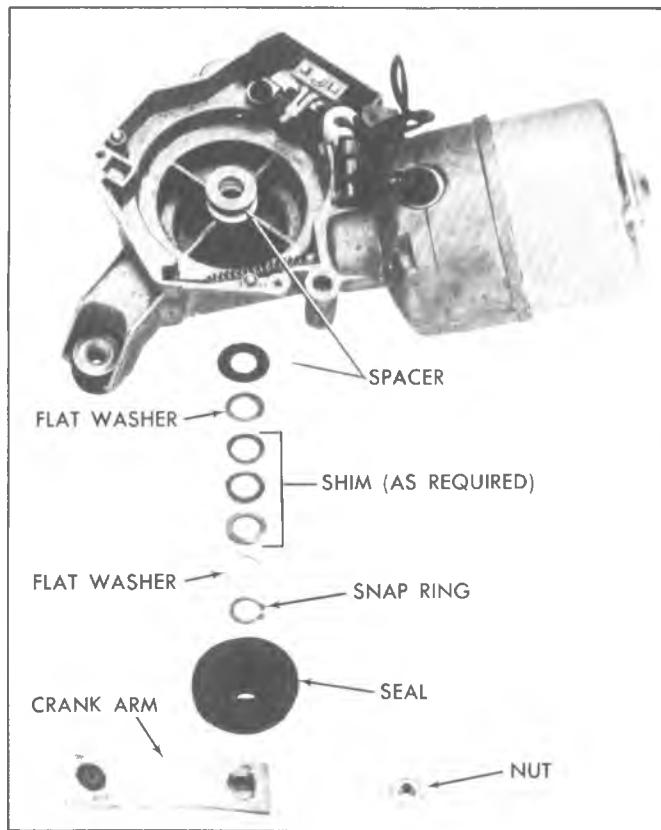

Fig. 27-Assembly Above Drive Gear
4. Remove seal cap and using No. 22 External Snap Ring Pliers, remove the "C" retaining ring (fig. 26). Next, remove washer, end play washers, and outer spacer (fig. 27).